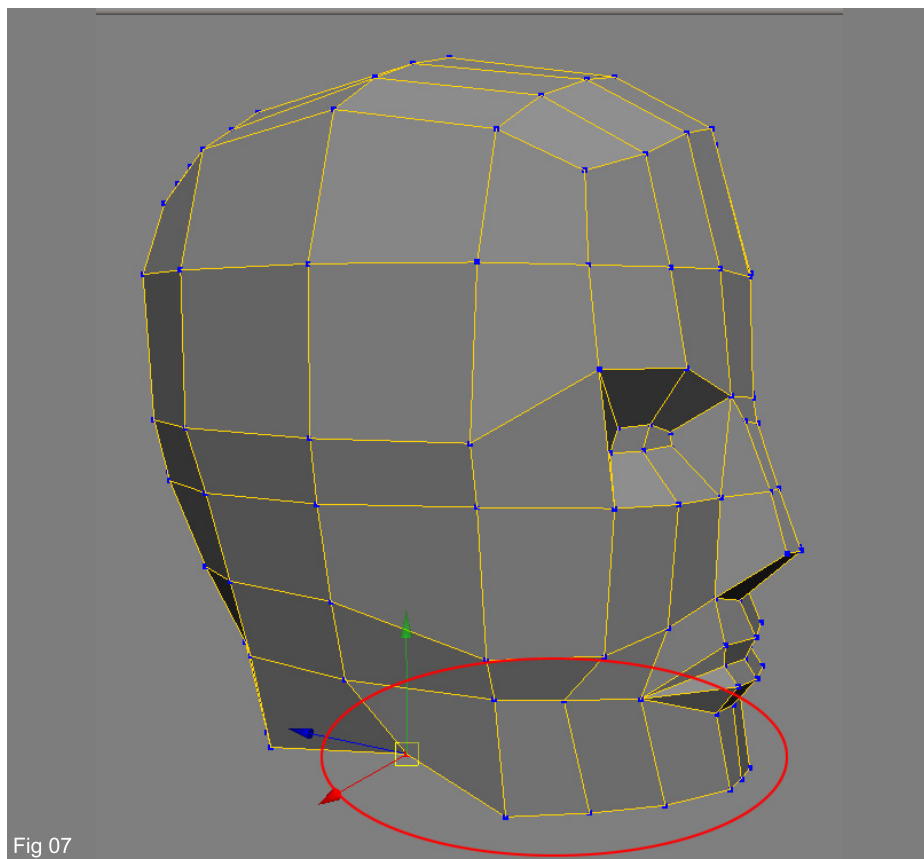

Fig 07
7. Have a look at the vertices at the bottom of the head (marked in red in Fig07), and try to move them around to give this area the look of jaw and chin. You don't have to go into detail right now, just try to create a basic shape for this area of the mesh: